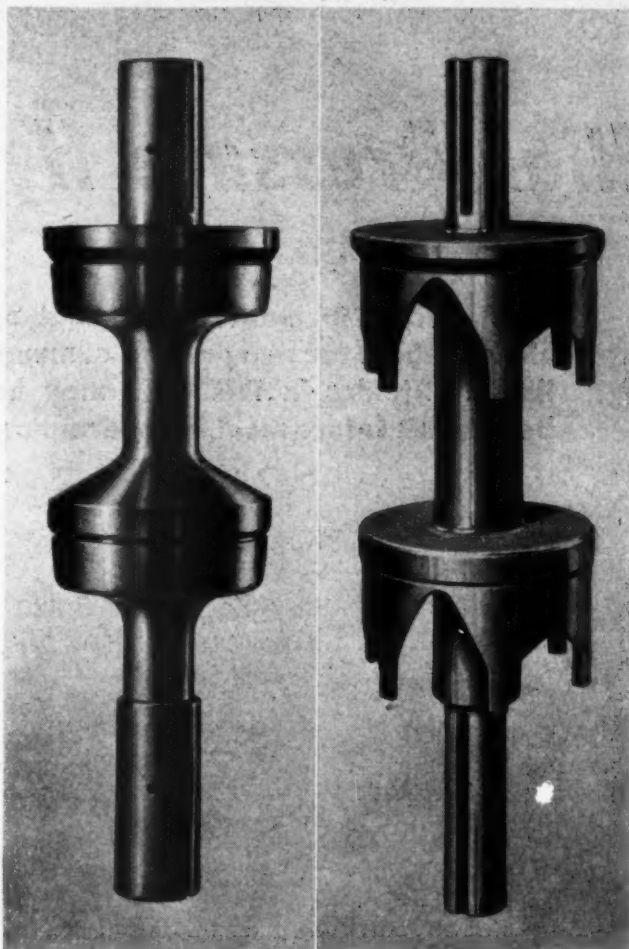

Fig. 5—Equal percentage plugs of the solid type, shown at the left, and the V-port type, shown right
**Equal Percentage Plug:** As with the linear inner valve, the equal percentage disk may be either V-ported or solid, Fig. 5. The flow-lift will produce a constant rate of change in flow per unit change in lift at constant pressure drop, Fig. 4. This change is always an equal percentage greater or smaller than the flow that existed at the moment preceding the increase or decrease in lift.